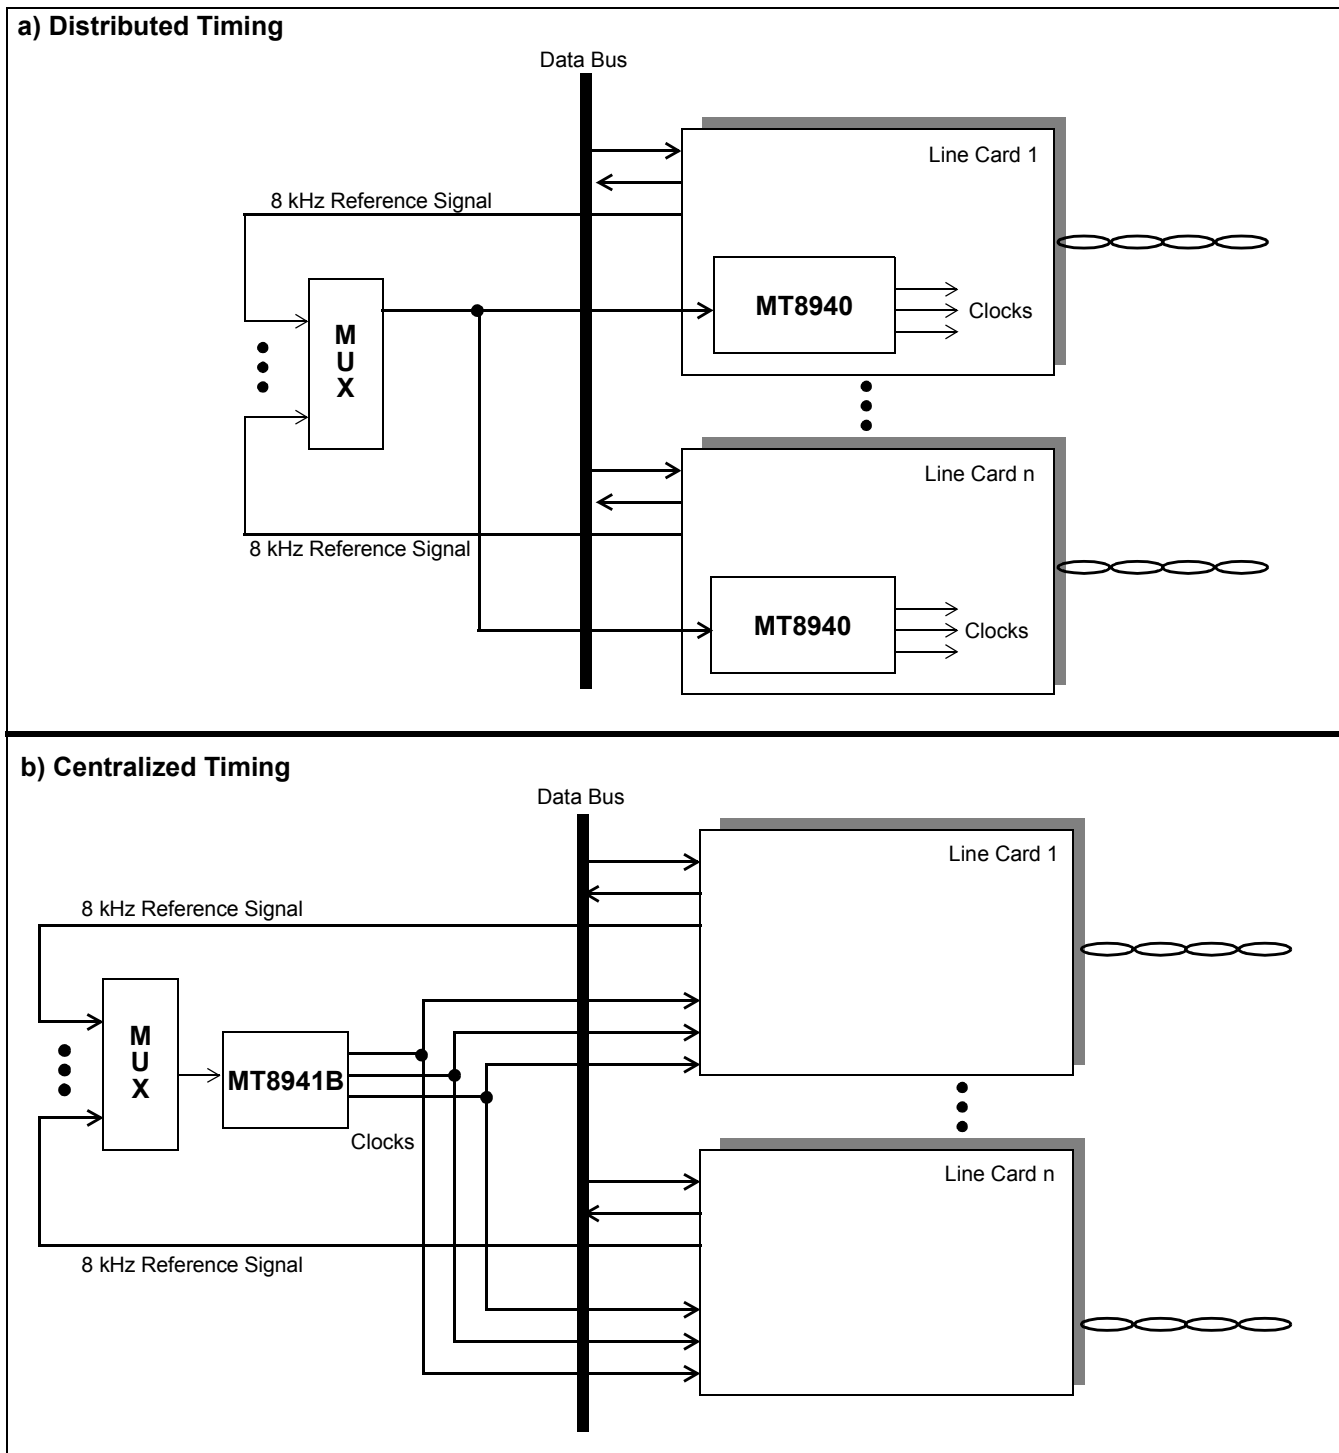

Figure 8 - Application Differences between the MT8940 and MT8941B
2. The MT8941B includes a no-correction window to filter out low frequency jitter and wander as illustrated in Figure 4. Consequently, there is no constant phase relationship between reference signal $\overline{F0i}$ of DPLL # 1 or C8Kb of DPLL #2 and the output clocks of DPLL #1 or DPLL #2. Figure 4 shows the new phase relationship between C8Kb and the DPLL #2 output clocks. Figure 8 illustrates an application where the MT8941B cannot replace the MT8940 and suggests an alternative solution.